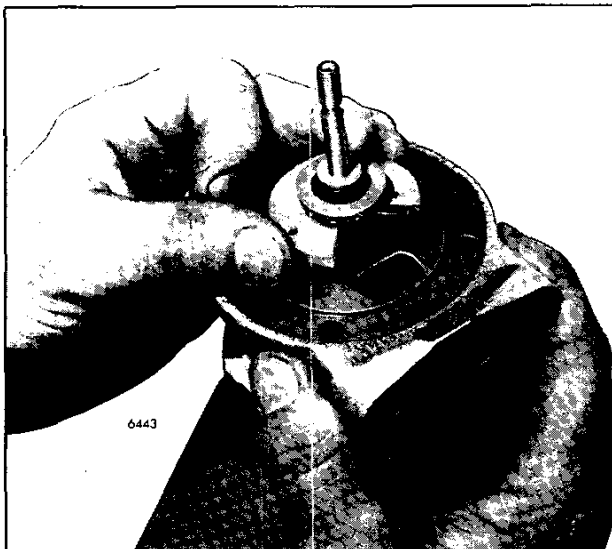

Fig. 12 - Removing Piston Seal Ring
8. Lift the thrust bearing and thrust collar from the center section and remove and discard the piston seal ring (Fig. 12).